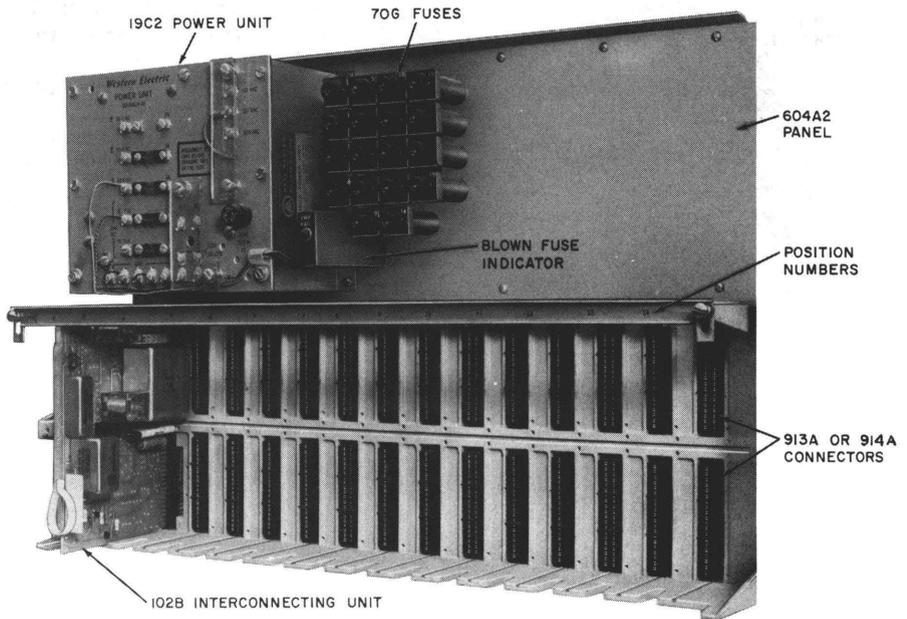

Fig. 2—102B Interconnecting Unit Mounted in 604A2 (MD) Panel
- Panel, 604A2 (MD) (includes 19C2 power unit and fuse panel; mounts fourteen 102-type IUs, Fig. 2)
3.18 Refer to Fig. 2 or 3 for installation sequence of 102-type IUs in the 604-type panel. On earlier production of the 604B panel, the position numbers were stamped on the designation strip. On current production of the 604B and on the 604C panel, the trunk number appears on the strip.